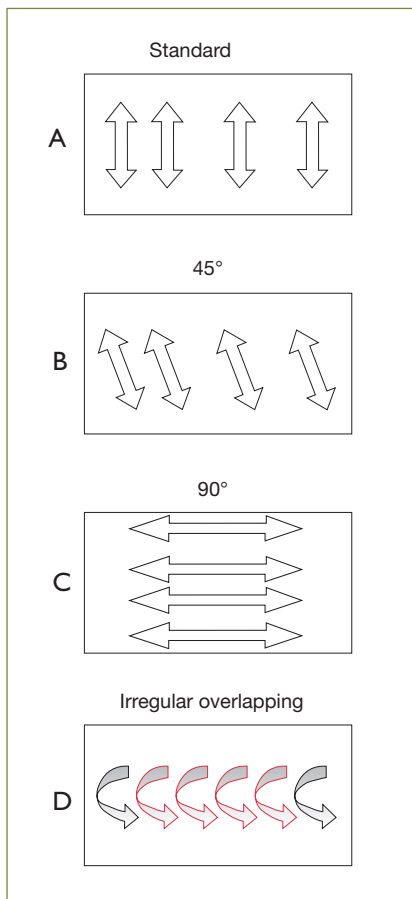

Fig. 5. Grinding directions.
- When changing to the next finer grain size, it is recommended that the grinding direction be changed to 45°. Cross-grinding is very simple, but extremely effective. It increases stock removal and it makes it easier to detect scratches from the previous steps and improve the dimensional accuracy. Figure 5 A–C.